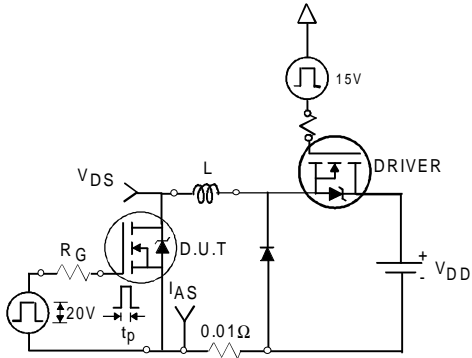

Fig 12a. Unclamped Inductive Test Circuit
- ③ $I_{SD} \leq 78A$, $di/dt \leq 320A/\mu s$, $V_{DD} \leq V_{(BR)DSS}$, $T_J \leq 175^\circ\text{C}$
- ④ Pulse width $\leq 400\mu s$; duty cycle $\leq 2\%$.
- ⑤ $C_{oss \text{ eff.}}$ is a fixed capacitance that gives the same charging time as C_{oss} while V_{DS} is rising from 0 to 80% V_{DSS} .
- ⑥ Calculated continuous current based on maximum allowable junction temperature. Package limitation current is 75A.
- ⑦ Limited by T_{Jmax} , see Fig.12a, 12b, 15, 16 for typical repetitive avalanche performance.
- ⑧ Uses IRF1407 data and test conditions.
3. Equation below based on circuit and waveforms shown in Figures 12a, 12b.